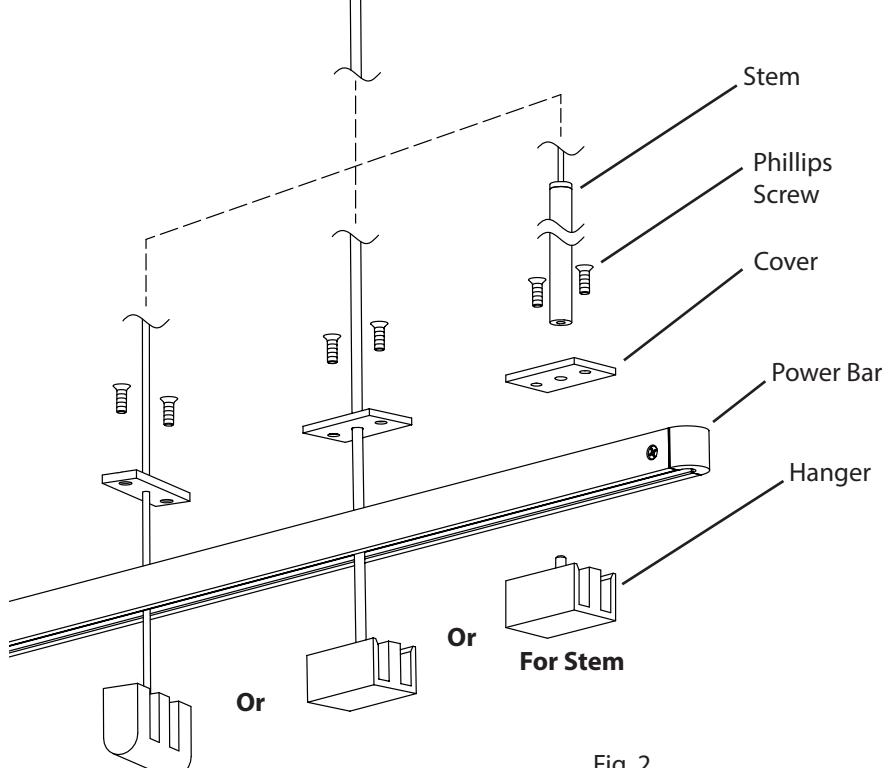

Fig. 2
2. Pass the **Ceiling Hanger Rod/Cable** through the **Power Bar**, then through the center hole of the **Cover**, making sure the countersunk holes on the Cover are facing up. Attach the **Cover** to the **Hanger** using the two small **Phillips Screws** (Fig. 2).
3. For Hanger with **Stem**: Hand screw the **Stem** onto the Ceiling Hanger. (Fig. 2)
- b. For Cable Hanger: Insert **Cable** into Post, then adjust to the desired length: to shorten, push the **Cable** up; to lengthen, push in the **Plunger** while pulling down on the **Cable**, release the **Plunger** to lock. Cut off the excess cable where it exits the Post (Fig. 2).